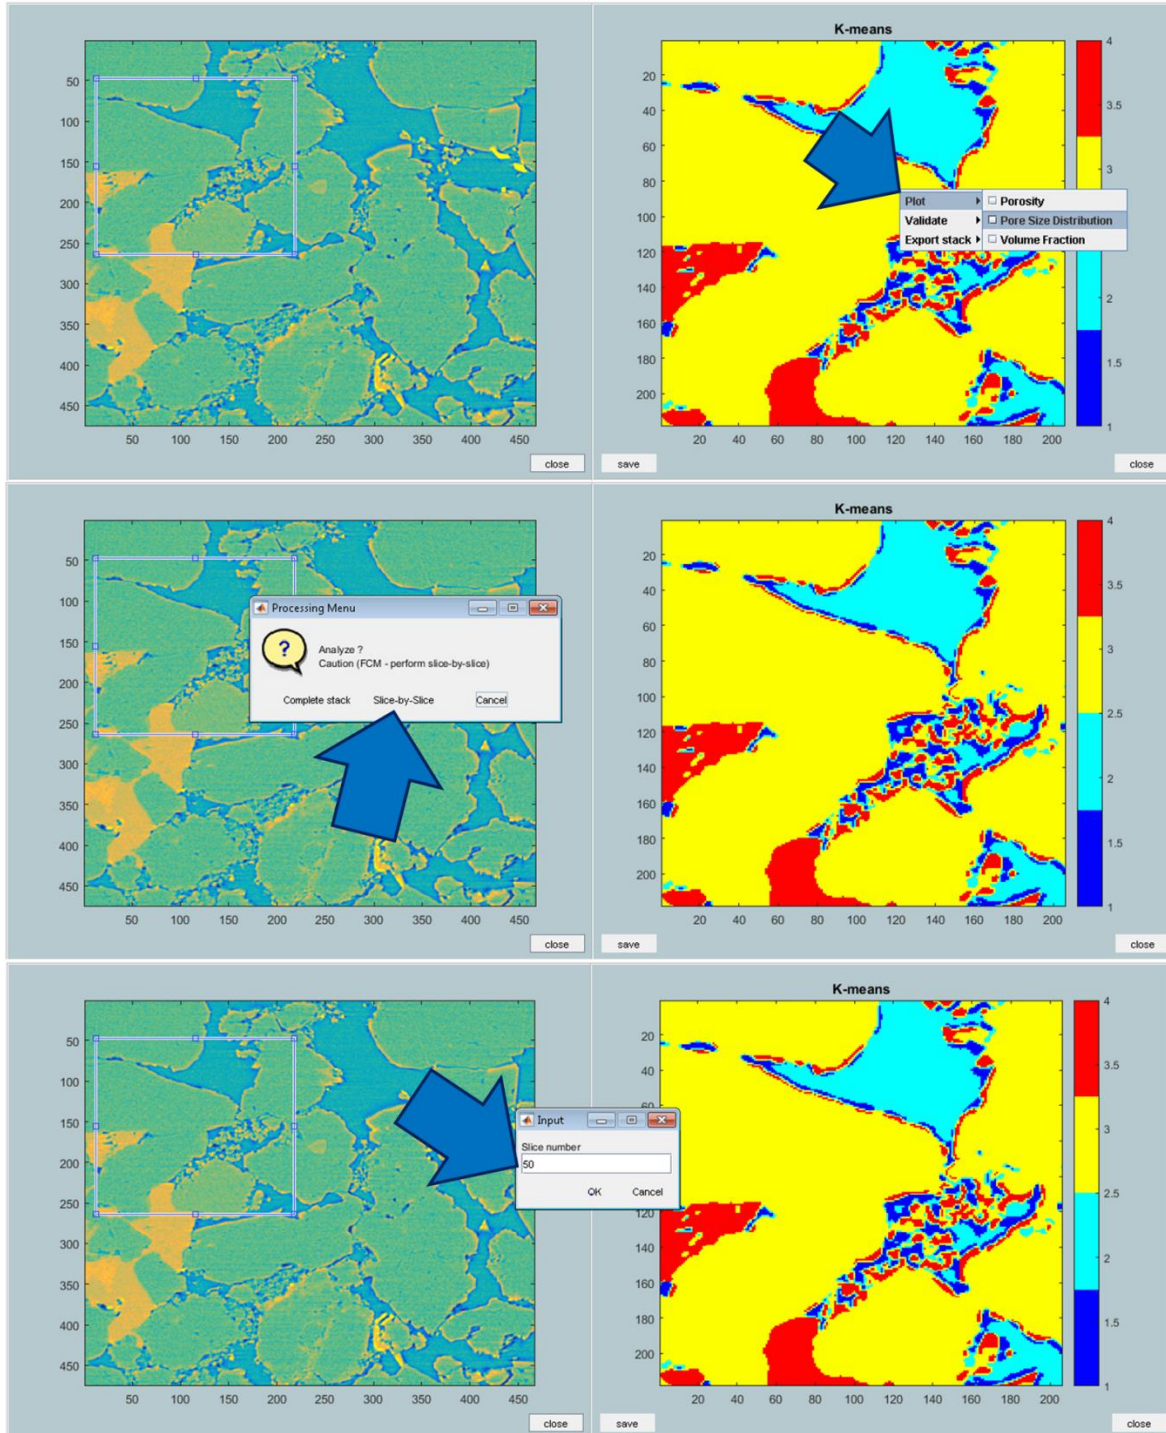

Figure 34: Pore size distribution processing menu and input
- To plot pore size distribution: **right click** on the segmented slice and select **Plot -> Pore Size Distribution (PSD)**, as shown in Figure 34.
- Figure 34 displays the **Slice-by-Slice** option where the **slice number** has to be **entered by the user**.
- The **slice** (no. 50) is then displayed in a **new window**, as shown in Figure 34.